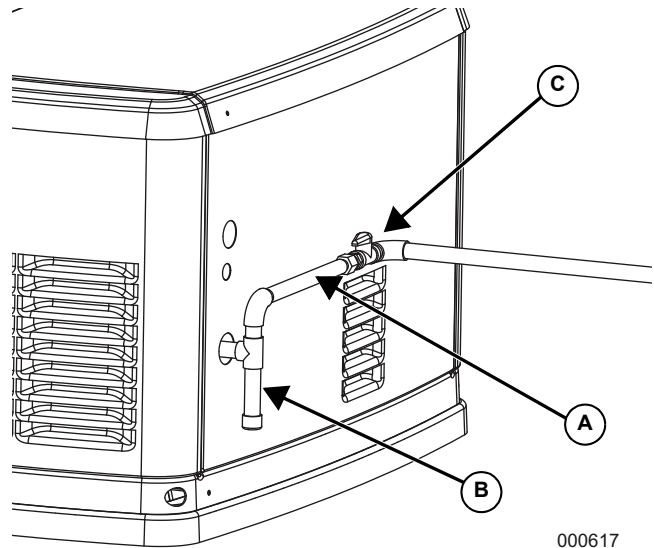

Figure 5-3. Sediment Trap
- When connecting the gas line to the generator, use a hose assembly that meets the requirements of ANSI Z21.75/ CSA 6.27—Connectors for Outdoor Gas Appliances and Manufactured Homes or AGA-approved flexible fuel line in accordance with local regulations. See **A** in *Figure 5-3*. The purpose of the flexible fuel line is to ensure that vibration from the generator does not cause a gas leak at one of the connection points. It is important that the line be installed with as few bends as possible. Install the recommended sediment trap (required by some local codes) and fuel shut off valve as illustrated (**B** and **C** in *Figure 5-3*).